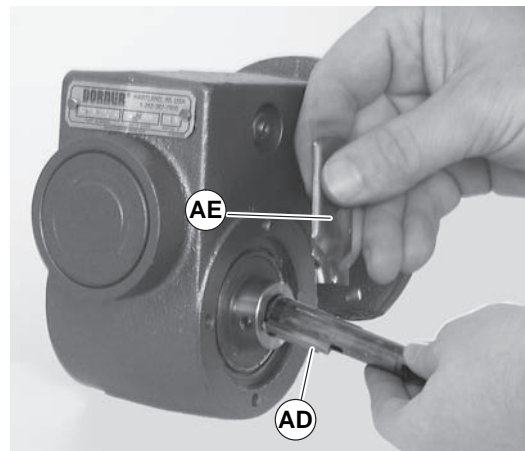

Figure 39
10. Apply grease (Figure 39, item AE) to shaft.